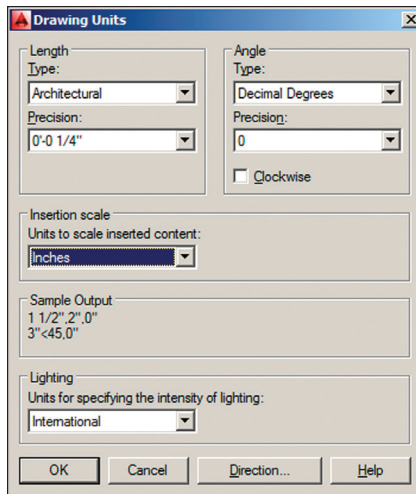

FIGURE 14.6 Setting architectural drawing units
- Type UN (for Units) and press Enter. Choose Architectural units (or Decimal units in metric) with a precision of 1/4" (metric users choose a precision of 0.0). Set Units To Scale Inserted Content under the Insertion Scale area to Inches (or Centimeters in metric) (see Figure 14.6). Click OK.